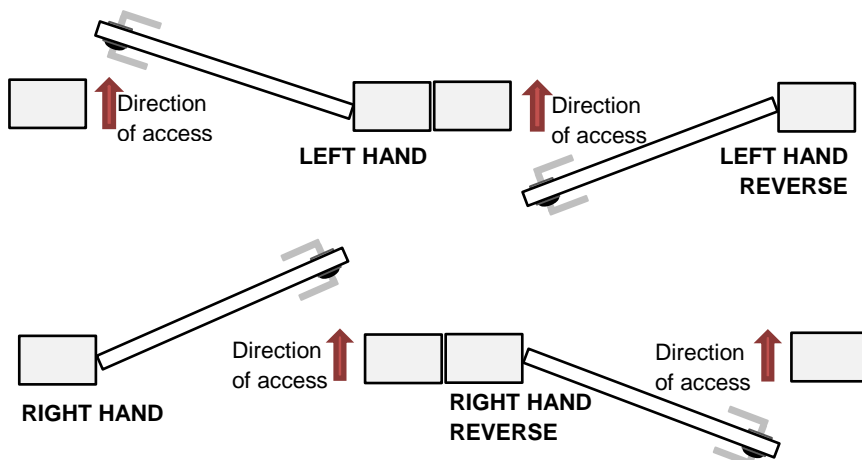

Fig.8. Handling Examples
It is possible to install U-Prox IP 500 Smart Handle both on right hand door and left handed door (see examples on Fig. 8)
4. Drill the holes in the doorpost for magnet and in the door for the magnetic door contact in the place, marked on the Fig. 8 below (optionally).